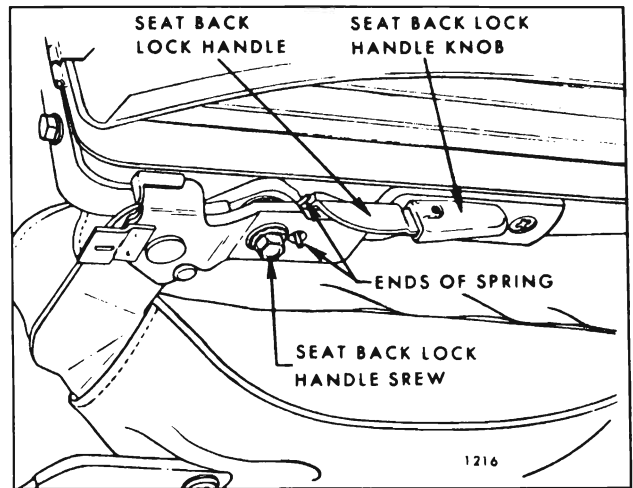

Fig. 15-74—Seat Back Lock
2. Install lock handle, bushing and spring into position between seat back panel and outer linkage making sure end of spring is engaged in hole in outer link (Fig. 15-74).